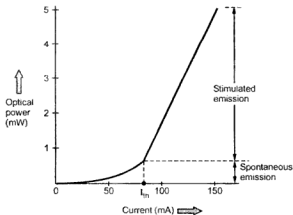

Fig. 3.1.12 Power current characteristics
- The output optic power versus forward input current characteristics is plotted in Fig. 3.1.12 for a typical laser diode. Below the threshold current ( $I_{th}$ ) only spontaneous emission is emitted hence there is small increase in optic power with drive current. At threshold when lasing conditions are satisfied. The optical power increases sharply after the lasing threshold because of stimulated emission.